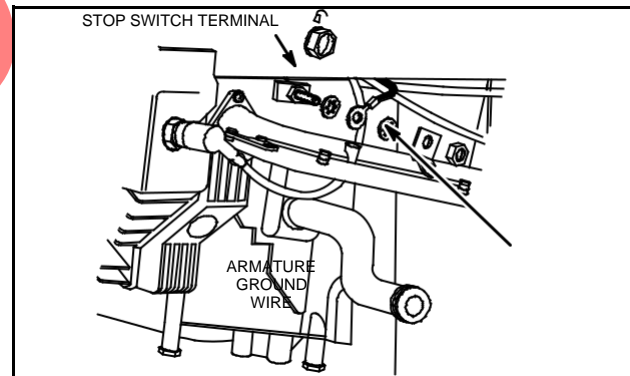

Fig. 5 – Stop Switch Terminal
3. Remove armature ground wire from stop switch terminal, Fig. 5.
4. Remove armature screws and lift off armature, Fig. 5.